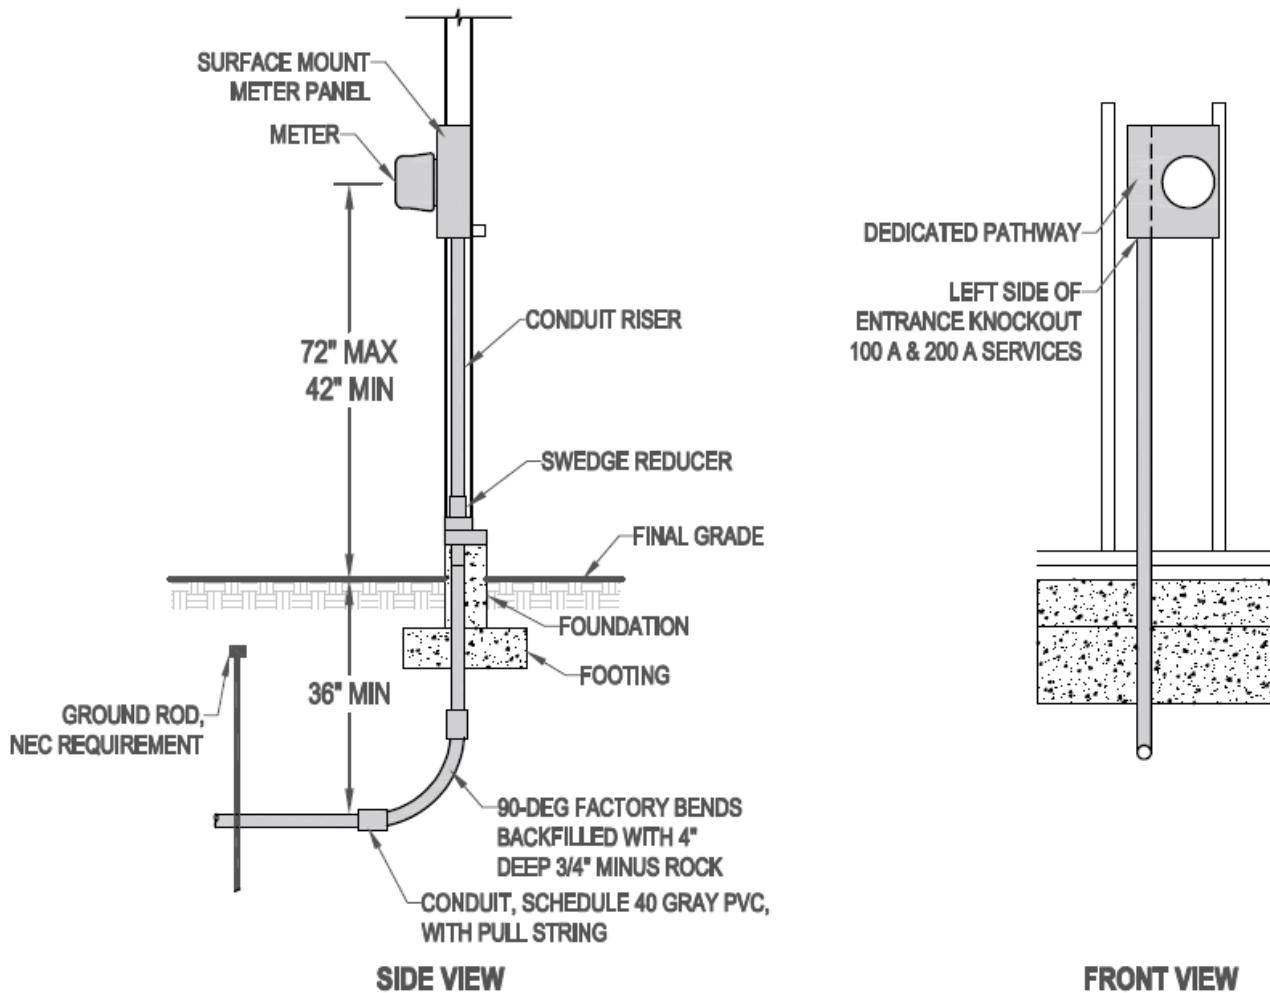

Figure 63. Flush-Mount Installation (STD-D-6008)
- No bends are allowed in the conduit riser between the meter socket and the underground sweep. Figure 63 shows an installation with conduit in the foundation and footing.